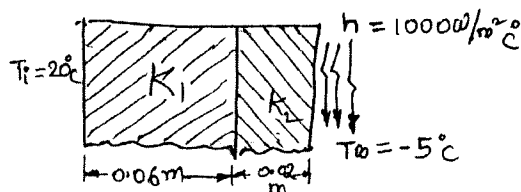

Fig.Q7(b)
b. Determine the temperature distribution through composite wall shown in Fig.Q7(b) where the convective heat loss occurs on the right surface. Take $K_1 = 6\text{W/m}^2\text{C}$ and $K_2 = 20\text{W/m}^2\text{C}$. (10 Marks)